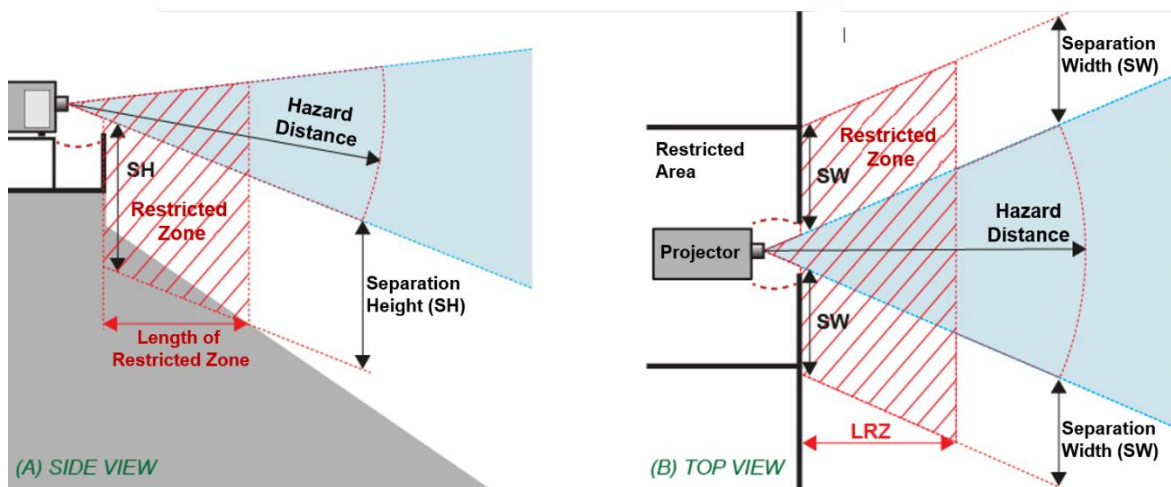

Fig. 1 An illustration of the concept of Hazard Distance (HD), Separation Height (SH) and Restricted Zone (RZ) for RG3 LIPs
In order to define the installation conditions in the variance documents, the FDA specified a minimum separation height (SH). The separation height is simply the distance from the floor to the bottom edge of the projected light beam of the projector, within the Hazard Zone (HZ). And as the name implies, the hazard zone is the area in which the projected light output contains enough energy to impact your vision, even temporarily. Fig.1 illustrates these concepts.